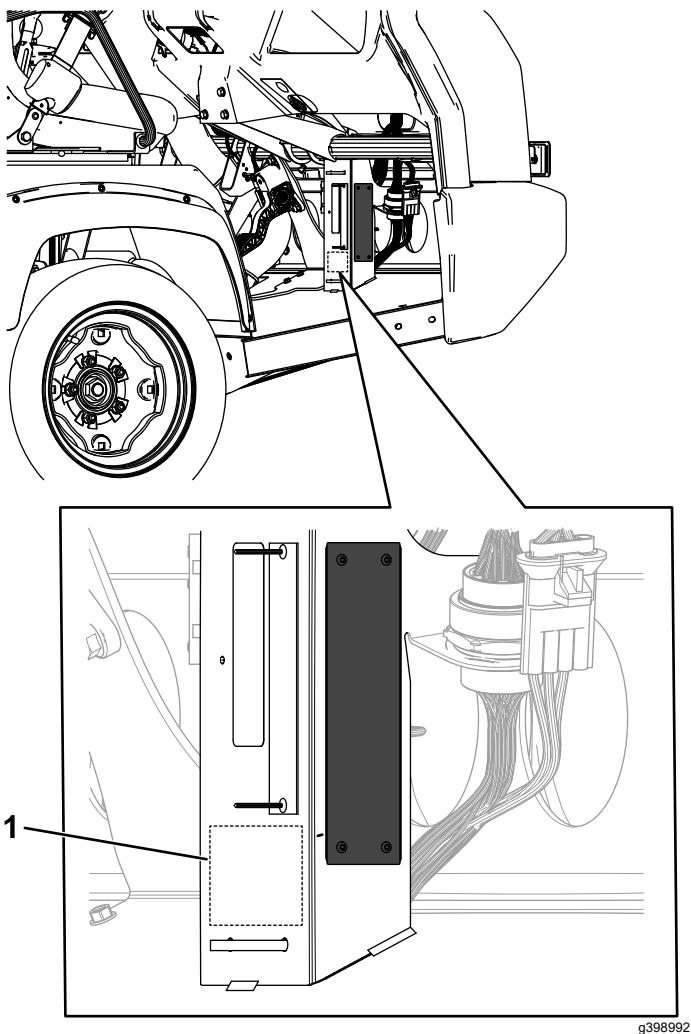

Figure 9
- Stamp the serial number on the machine in the location shown in Figure 9.